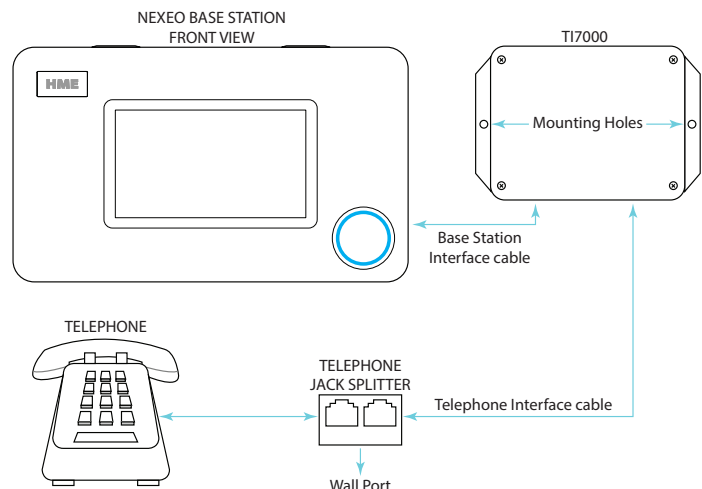

Fig. 11.1
1. Hold the TI7000 against the wall and mark the wall through the two mounting holes on each end of the unit (see Fig. 11.1).
2. Plug the telephone into one of the ports on the telephone jack splitter, see Fig 11.1.
3. Plug one end of the included telephone interface into the other port on the telephone jack splitter and connect the other end to the RJ11 port on the TI7000. See Fig 11.1 and 2.